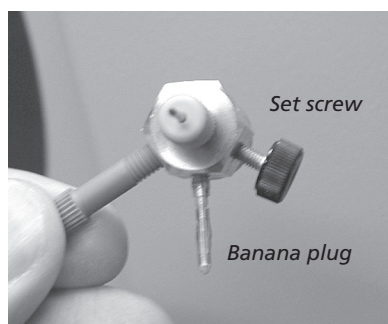

Figure 12: Transfer the set screw from the source head to the white, plastic body of the ADPT-PRO
5. Remove the set screw from the Protana source head and screw it into the body of the ADPT-PRO (see Figure 12)